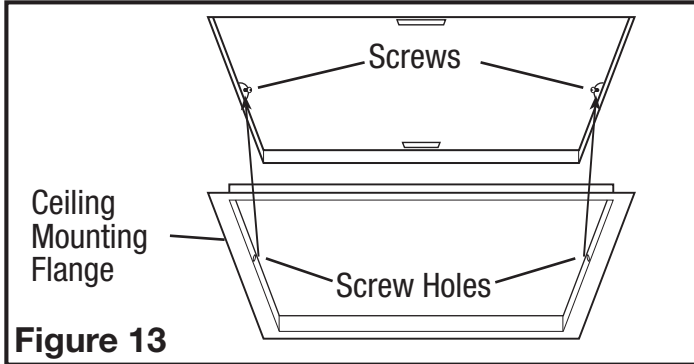

Figure 13
**NOTE:** If the mounting flange is installed on the fan housing, remove the two screws that connect the ceiling mounting flange to the housing and set aside (Figure 13).
4. Install the ceiling mounting flange to cover any gaps which exist between the housing and the finished ceiling. Remove the two screws that connect the ceiling mounting flange to the housing. Put sealant (not provided) on inside edge of the ceiling mounting flange to ensure that the flange is sealed to the ceiling. Line up the screw holes in the ceiling mounting flange with the screw holes on the inside of the housing and press flange in place so it is tight against the ceiling. Reinstall ceiling flange mounting screws inside the housing (Figure 13).